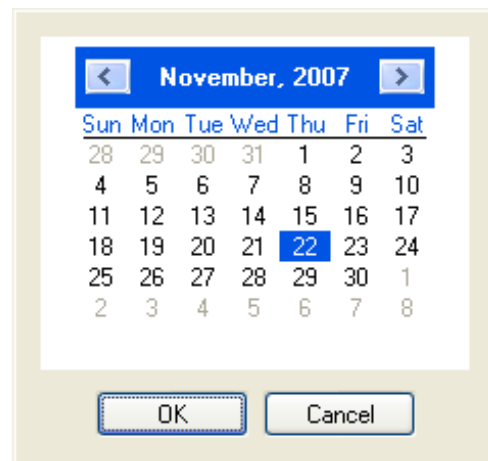

Figure 26
2. Enter the holiday name, month and day. Clicking the down arrow will display a calendar (Fig 26).